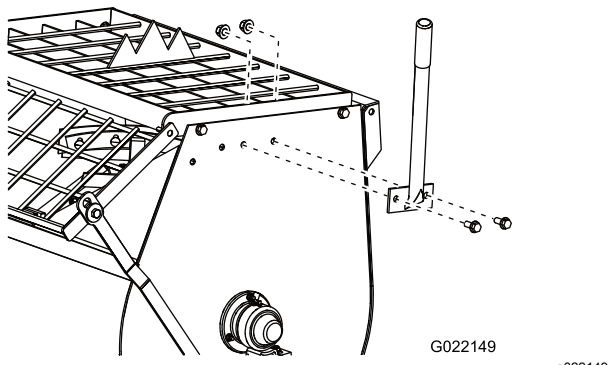

Figure 5
2. Position the dump handle so that the bolt holes align with the bolt holes in the drum (Figure 3, Figure 4, or Figure 5).
3. Insert the 2 bolts through the bolt holes in the dump handle and the drum (Figure 3, Figure 4, or Figure 5).